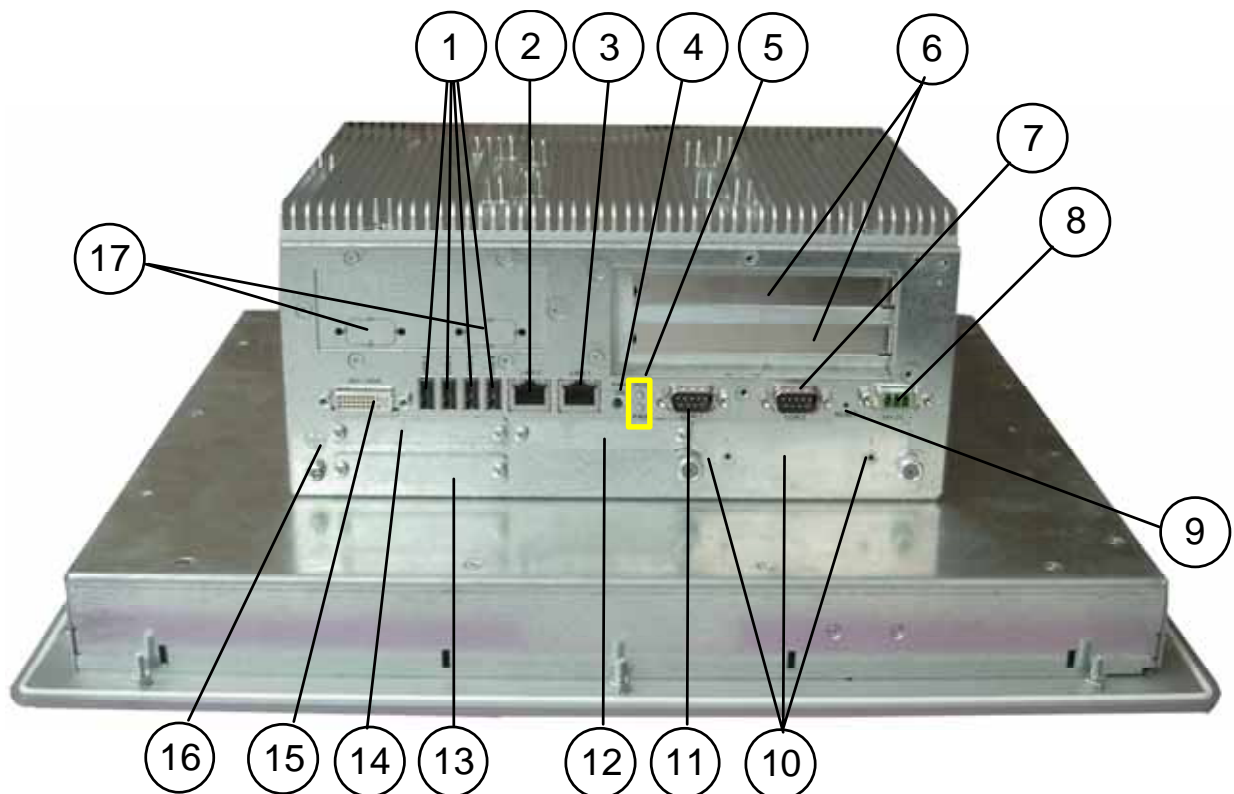

Fig. 4: V Panel Express (interface side)
The V Panel Express is equipped with a bottom side accessible CompactFlash™ slot. (The second CF slot is not equipped; refer to *Fig. 4, pos. 14*). The CF slot will accept only CF cards type I.